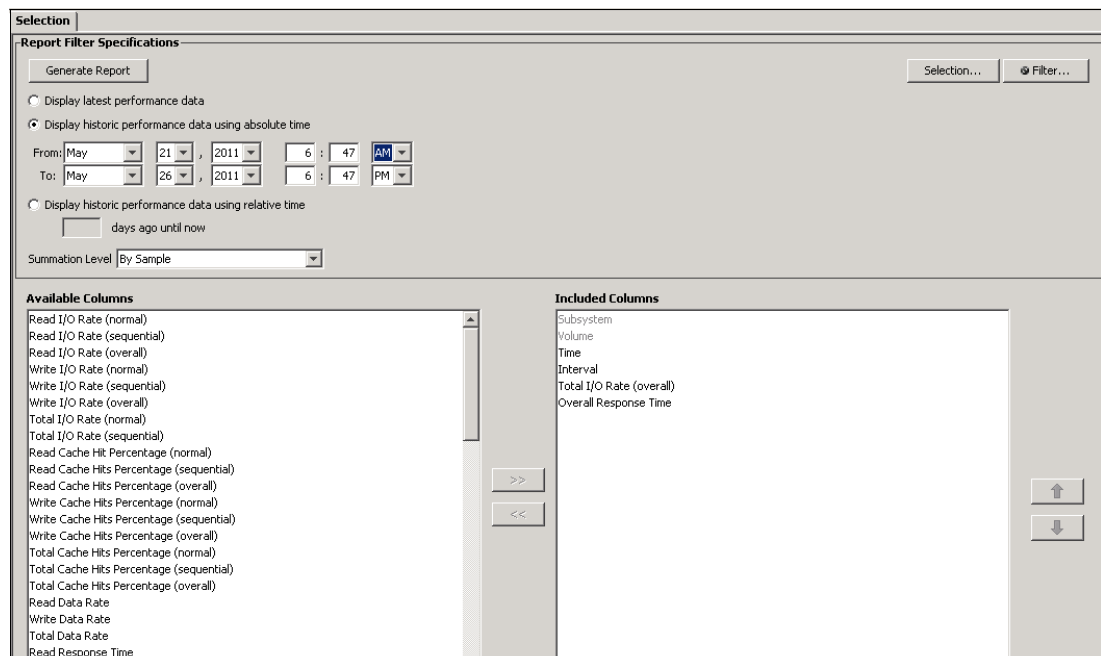

Figure 13-124 Limiting the days for the top volumes tailored report
4. Complete the following steps in the Selection tab, as shown in Figure 13-124: